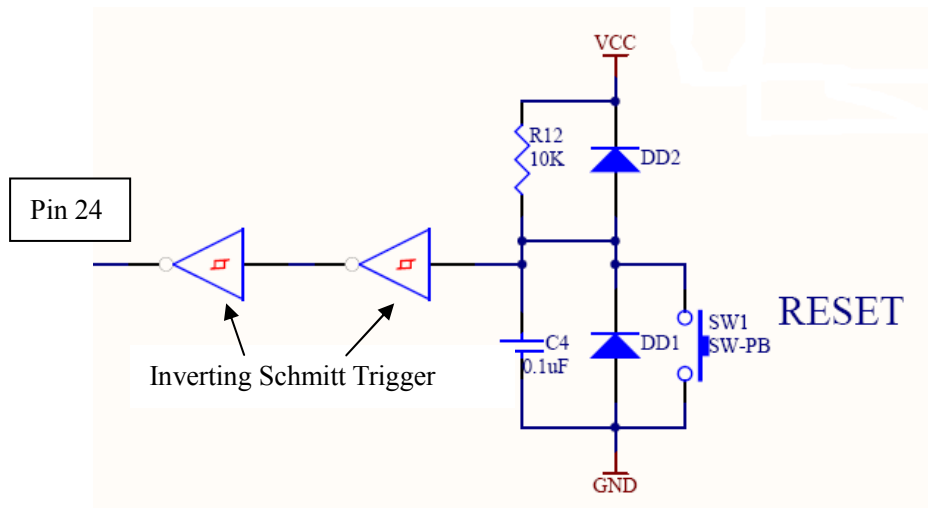

Figure 3 – RESET circuit for 80C188 microprocessor
3.5. **Solder the RESET push button and diodes onto the PCB.** The RESET button is to set the microprocessor back to its default status. Take note of the push button orientation and diodes' polarity (the terminal with black label is the negative side of a diode). The RESET circuit is described in Figure 3.